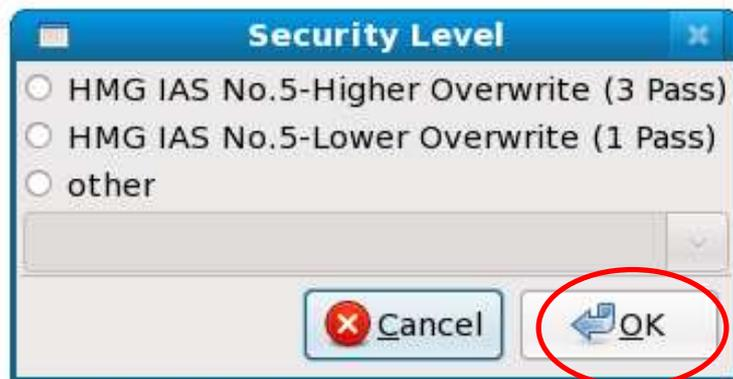

Figure 3: Security Level Pop-up Window
4.6 After pressing the “Erase Hard Drive” button, a pop-up window will appear that allows you to choose the level of overwrite you would like to execute on the selected drive. Figure 3 shows this pop-up window.